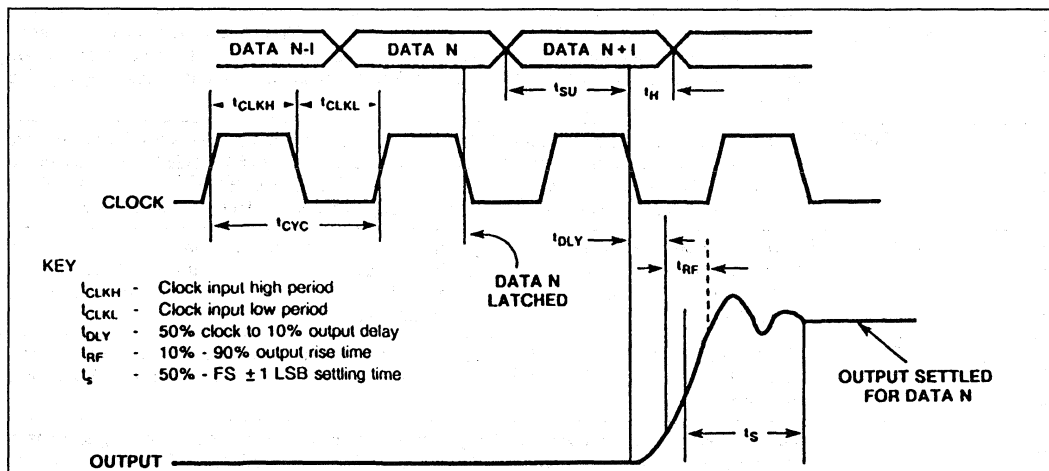

Fig.3 Timing diagram
**AC CHARACTERISTICS (Refer to Fig. 3)**
On the falling edge of each clock cycle, as shown in Fig. 3, eight data bits are latched into the device and passed to the 8-bit D-to-A converter. Also latched on the falling edge of the clock signal, the SYNC and BLANK inputs add the necessary weighted currents to the analog outputs to produce the required output levels for use in video applications. Table 1 details how the SYNC, BLANK, REFWHITE and OVERBRT inputs modify the DAC output levels.